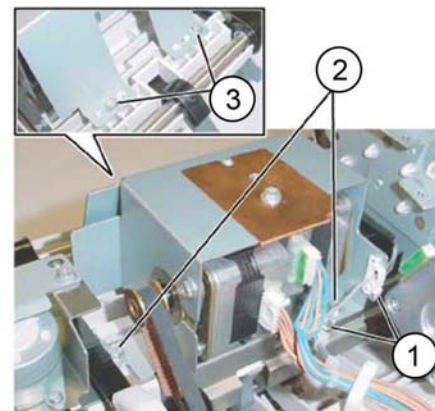

Figure 4 Screw removal
9. Remove the screws securing the eject/set clamp motor assembly, **Figure 4**:
- a. Release the harness from both clamps (1).
- b. Remove both screws (2).
- c. Remove both self-tapping screws (3).